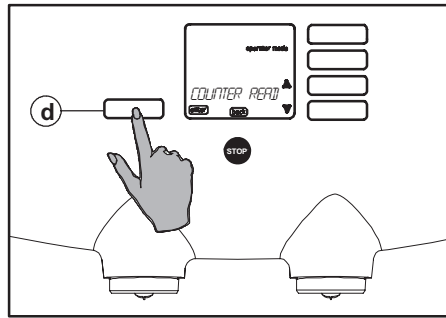
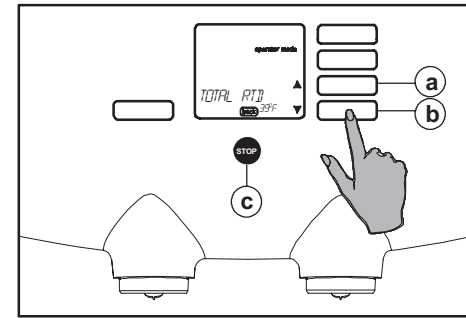

Fig. 30 "COUNTER READ" selection menu
Fig. 31 Total counter
2. Press the enter button (fig. 30 d). The display shows the total counter "TOTAL RTD" (fig. 31).
14. Press the stop button (fig. 31 c) twice to end the programming.